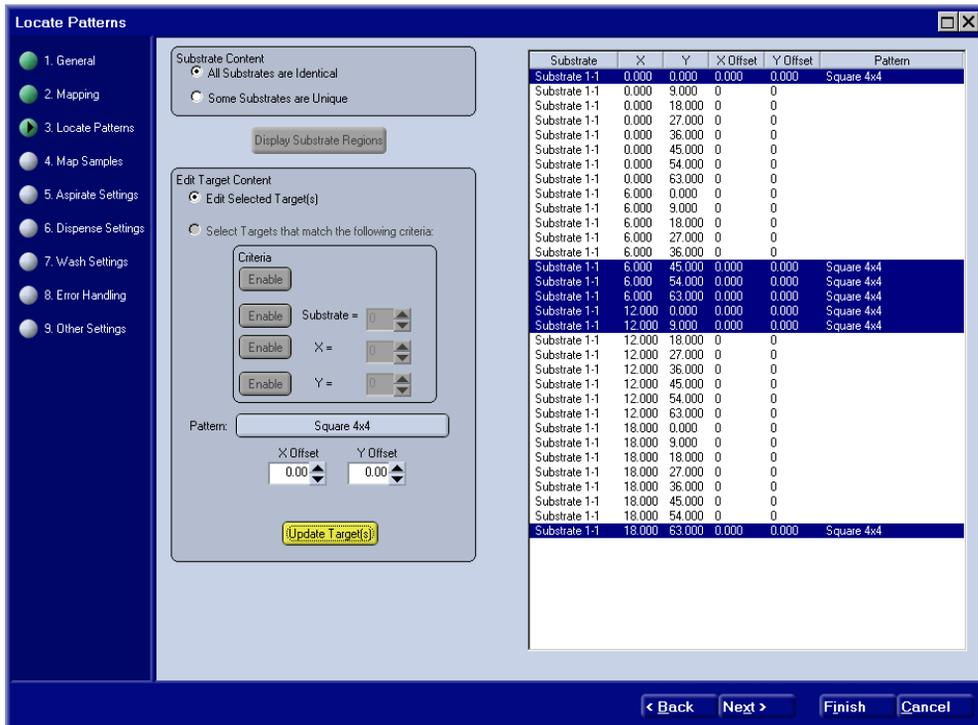

Figure 7-5. Protocol Definition - Locate Patterns.
- The **Locate Patterns** page (Figure 7-5)